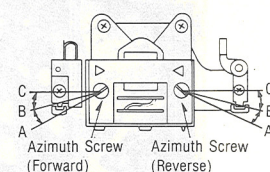
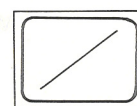

Fig. 7
Fig. 9-1
Adjust the azimuth screw (Forward) shown in fig. 7 for maximum output L-CH and R-CH levels.
10. Turn the azimuth screw (Forward) shown in fig. 7 to find angles A and C (points where peak output levels for left and right channels are obtained). Then, locate angle B between angles A and C, i.e., point where L-CH and R-CH outputs are balanced. (Refer to figs. 7 and 8.)
13. In the forward playback mode, playback the 8kHz signal from the test tape (QZZCFM). Adjust the azimuth screw (Forward) shown in fig. 7 so that pointers of the two VTVMs swing to maximum and a lissajous waveform as illustrated in fig. 9-1 is obtained on the oscilloscope.